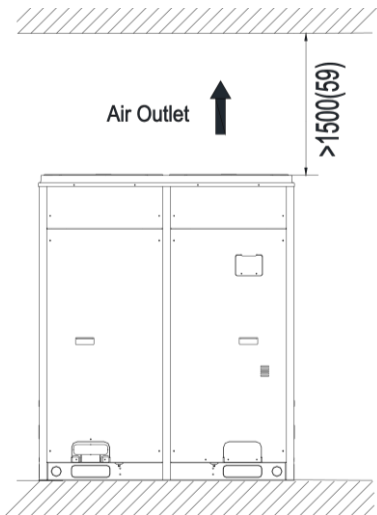
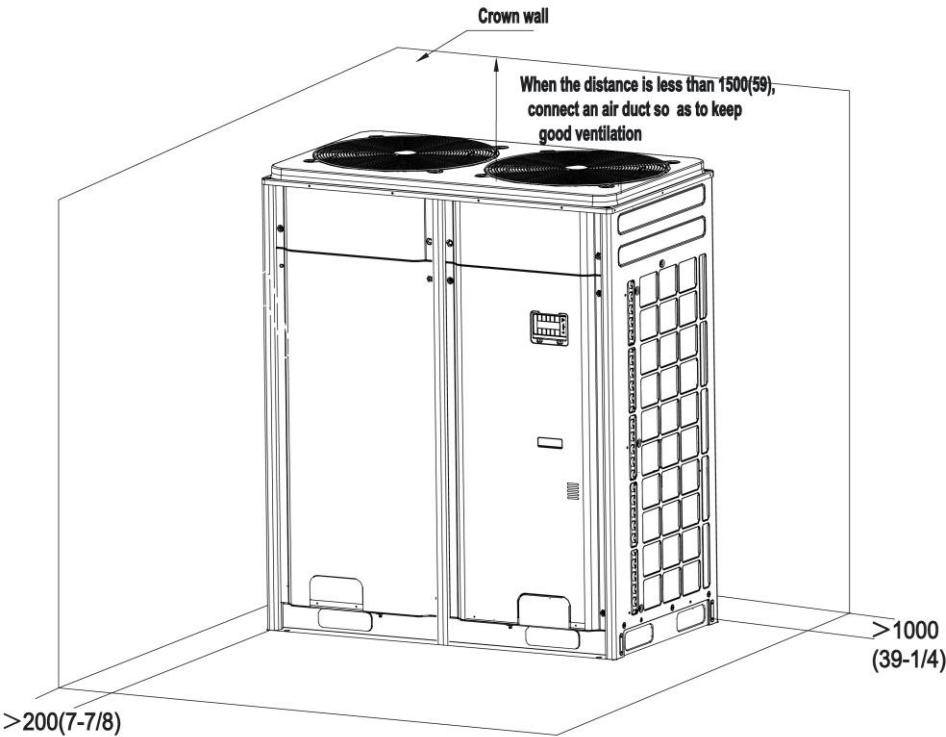

Fig.3.2.4
Fig.3.2.5
- (2) When there is wall (or similar obstruction) above the unit, keep the distance between the unit top and the wall at least 3000mm(118-1/8in.) or above. When the unit is located in a totally open space with no obstructions in four directions, keep the distance between the unit top and wall at least 1500mm(59in.) or above (See Fig.3.2.4). When space is limited within 1500mm(59in.) or the unit is not set in an open space, air outlet pipe is required to be installed in order to keep good ventilation (See Fig.3.2.5).